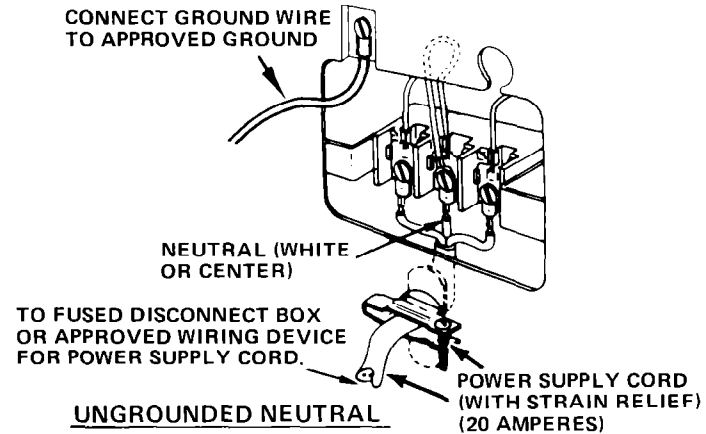

Figure 5
2. Connect the neutral wire of the power supply cord to the center terminal of the terminal block and connect the other wires to the outer terminals. See Figure 5. For connecting plain-end field wire, see Figure 7.